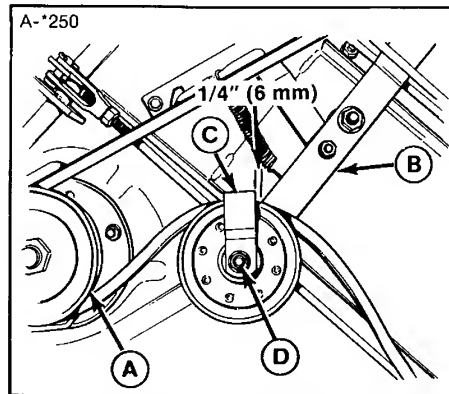

Figure 25. Mower Belt Replacement
2. Loosen the belt guide (C, figure 25) on the idler pulley.
5. Reposition the belt guide on the idler pulley (figure 25). Before tightening the nut (D), position the belt guide so it is 1/4 inch (6 mm) behind the idler arm (B) when viewed from above (figure 25). Hold the belt guide when tightening nut.